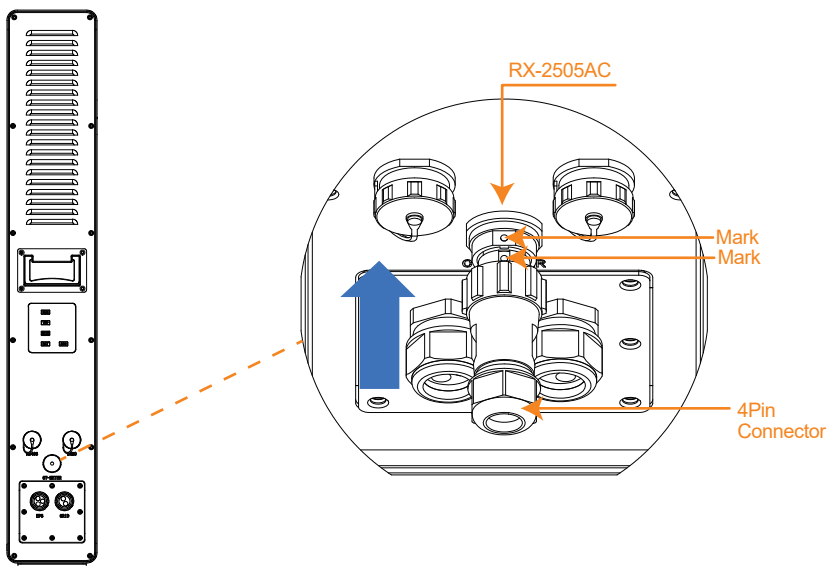

Figure 5-9 – CT connector insertion with white guide marks
2. Connect aviation plug (CT/METER) to the RX-2505AC (CT/METER) port as shown in Figure 5-9.